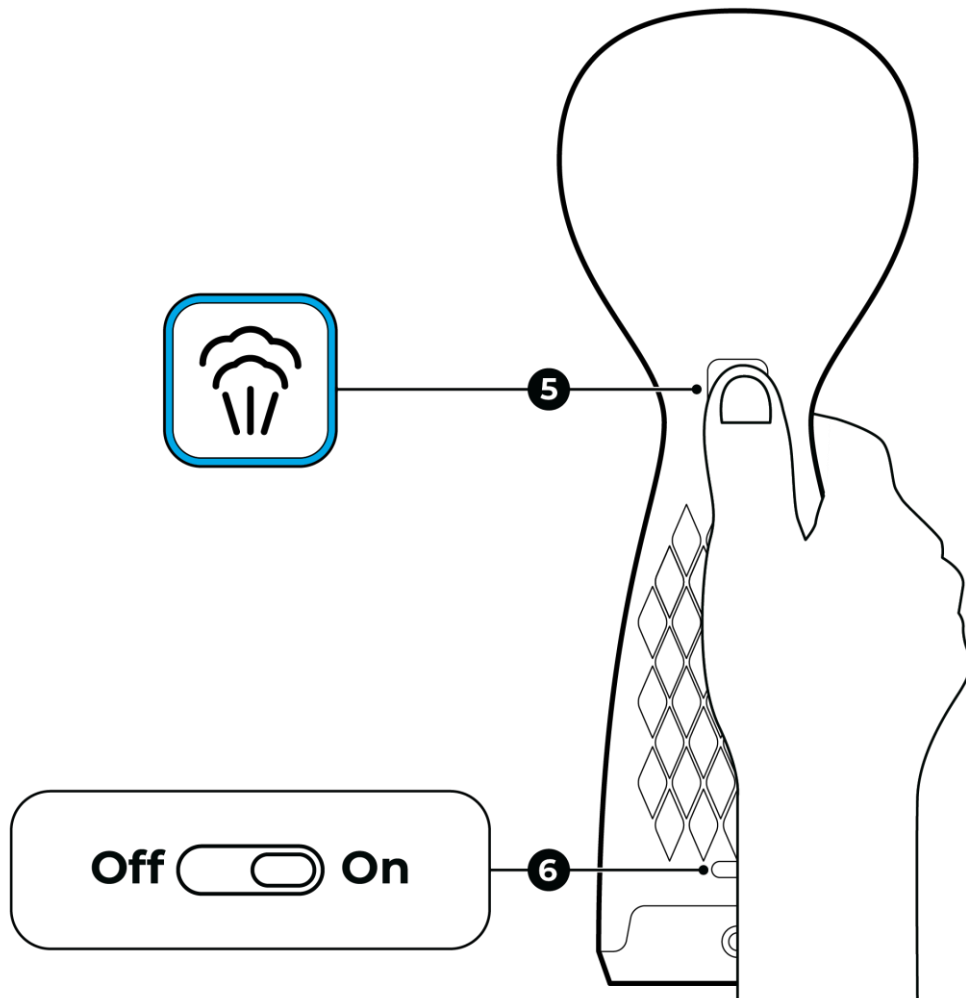

Figure 11 – Pressing the steam button
1. After preparing the steamer for operation, press the steam button (5) once (fig. 11).
1. Point the steaming head at the garment and press the steam button (5) (see fig. 11). During steaming, it is not necessary to keep the button pressed all the time.